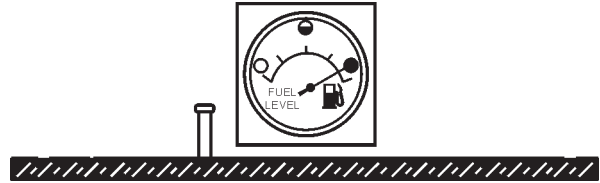

Figure 21. Full Fuel Tank
If generator is equipped with an environmental fuel tank, reference Figures 21 and 22.
3. **NEVER overfill fuel tank** – It is important to read the fuel gauge when filling trailer fuel tank. **DO NOT** wait for fuel to rise in filler neck (Figure 21).